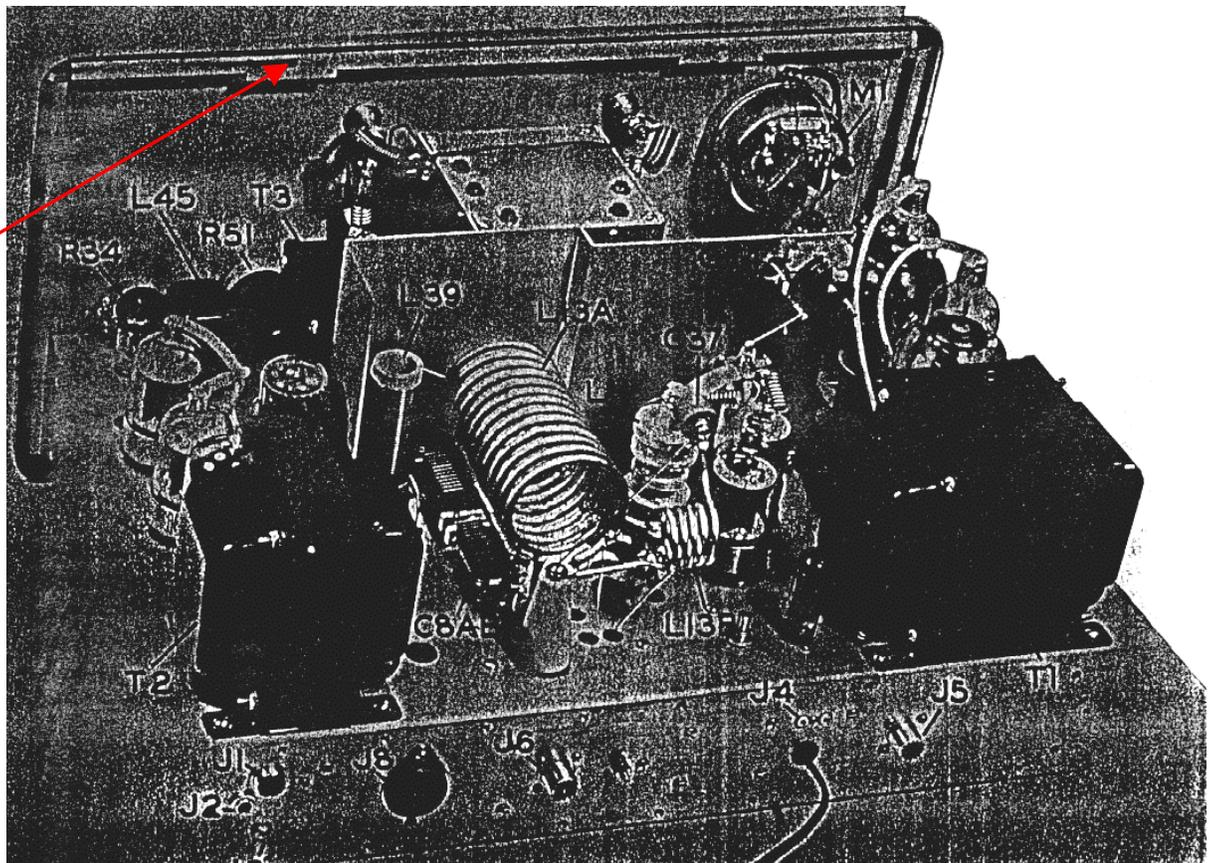

Figure 4.
- 4) Mount the new High Fidelity Transformer on the top side of the Chassis. It will hang from one of the four mounting flanges on one of it's four corners. Insert a short machine screw through the flange on the transformer, and then into the existing threaded hole that is depicted in Figure 4.